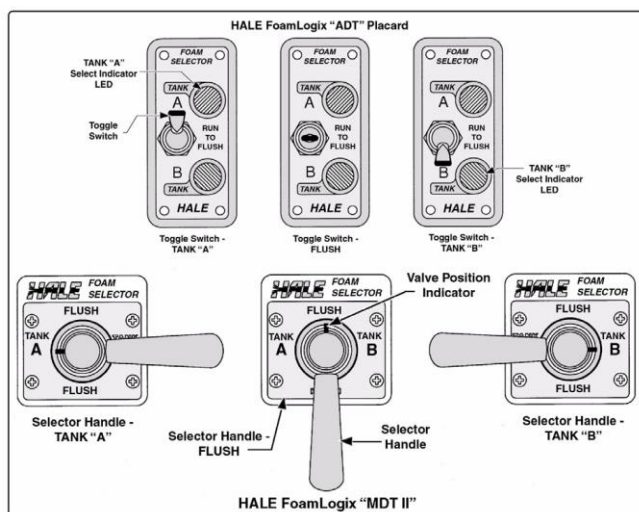
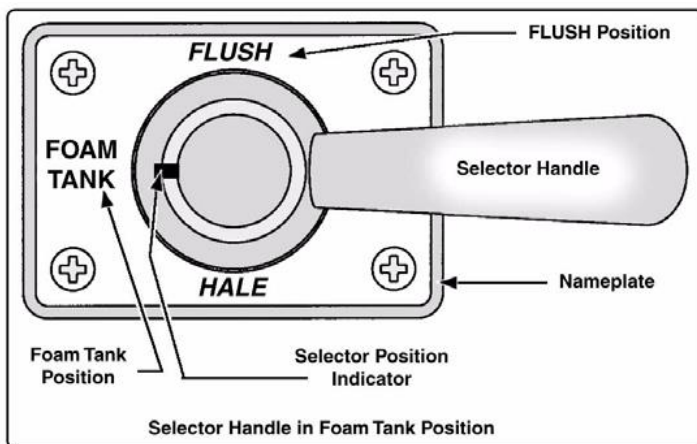

Figure 56: Dual Tank Selector Operating Positions
Figure 58: Hale MST Selector Operation
Make sure the Hale SmartFOAM is operating and foam solution is being discharged (see Figure 56: **Dual Tank Selector Operating Positions**).
Note: Approved Class “A” foam concentrates do not deteriorate rapidly like Class “B” concentrates. As long as an approved Class “A” foam concentrate is used and the system is operated within 10-12 weeks no flushing is required. When Class “B” foam concentrate is used, always FLUSH the system, then switch back to Class “A” (see Figure 56: **Dual Tank Selector Operating Positions** and Figure 58: **Hale MST Selector Operation**).
3. Place the Hale ADT, MDT II or MST to the FLUSH position (see Figure 58: **Hale MST Selector Operation**).